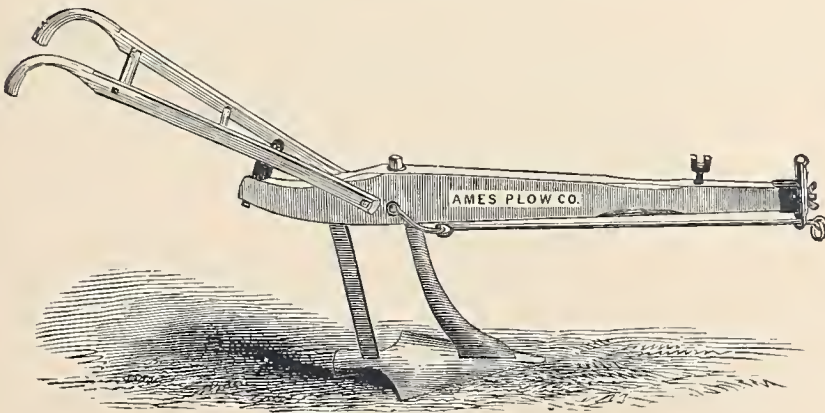

Fig. 295. — Mapes Lifting Subsoil Plow.
*Mapes Lifting Subsoil Plow*, represented by *Fig. 295*, is made of wrought-iron and steel. It is found to double a sod corn-crop by passing after the sod-plow to